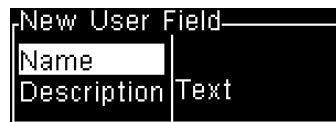

Figure 5-19: New User Field Window
- 4 Press Enter to open the New User Field window (Figure 5-19).